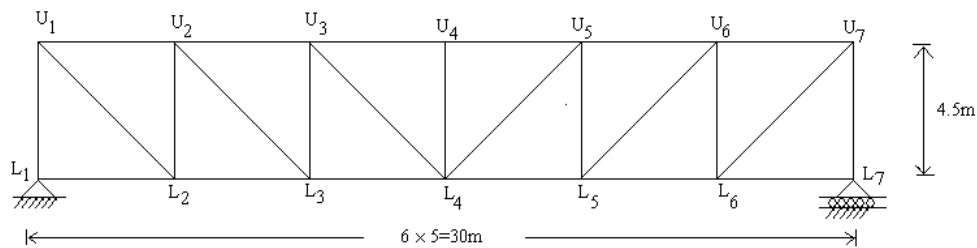

Fig.5
7. Draw the influence line diagram for forces in the members U_2L_3 , U_3L_4 , U_3U_4 and U_3L_3 of the frame shown in Fig.5 and find the maximum forces developed when uniformly distributed load of intensity 55 kN/m, longer than the span moves from left to right on the bottom chord. [16]